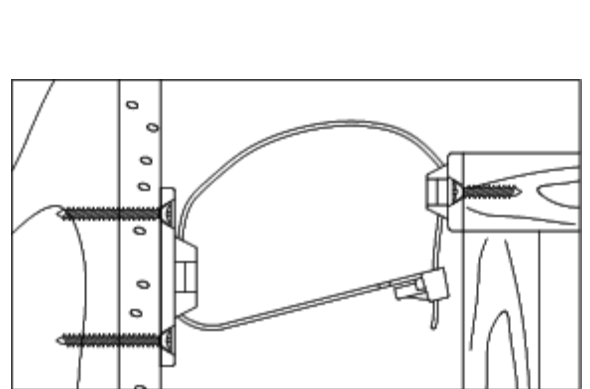

Figure 3
- 3) MOUNTING THE WALL-SIDE BRACKET :** Position the wall-side bracket along the selected stud mark so that it will be adjacent the furniture-side bracket when the furniture item is moved to its final position. The wall-side bracket should be about ONE inch lower than the furniture-side bracket (See Figure 3). Use the TWO Long screws to secure the wall-side bracket to the wall. Remember to position the wall-side bracket vertically so that both screws will engage the selected wall stud (See Figure 2).